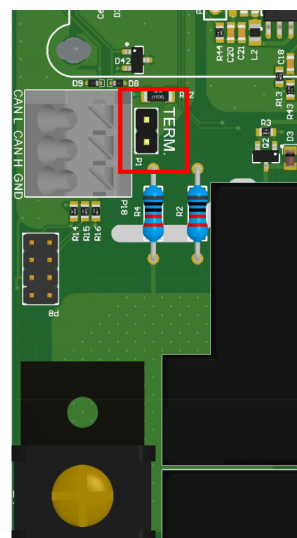
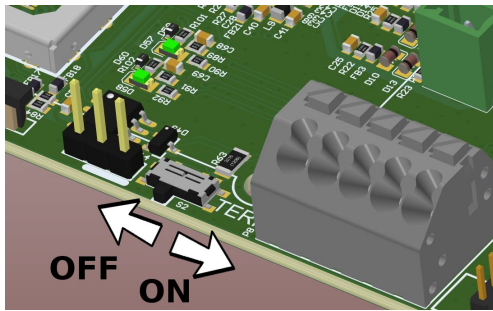

Fig. 31: The place of applying the terminating jumper (variant A)
Fig. 32: The place of applying the terminating jumper (variant B)
4. Use termination for devices at the beginning and end of the network. In case of variant A place terminating jumper on the marked headers [Fig 31]. In case of variant B termination is done by slide the switch down, to show white square. In alternate version, if there is no switch, place a jumper on two pins in the header inside the charger marked by white line [Fig. 32].